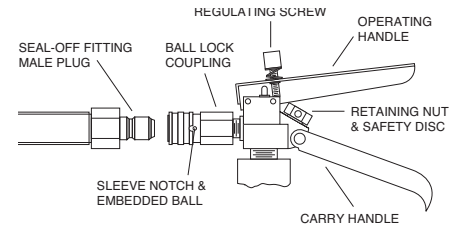

Figure 4
When using the CO₂ system, adjust the flow regulating screw on the "squeeze to operate" valve handle on the 5 lb. cylinder or on the 1105 valve and hose assembly. Regulate the flow to a moderate amount sufficient to keep the line carrier moving and the line flowing into the conduit. Develop a light touch and conserve CO₂ (Refer to Figure 4).
All CO₂ seal-offs are equipped with a male quick disconnect plug that plugs into the operating valve ball lock coupling on the 5 lb. CO₂ cylinder valve or the 1105 operating valve and hose assembly used with the 20 lb. and 50 lb. CO₂ cylinders (Refer to Figure 4).
1. Rotate the valve ball lock coupling sleeve to align notch with embedded ball (Refer to Figure 4).
method of placing a light weight pull line in the conduit. The line package or seal-off requires no thread up for this operation. However, it is recommended that the seal-off be connected to the operating valve and a preliminary CO₂ flow adjustment be made by alternately operating the valve and adjusting the regulating screw. If more CO₂ flow is required, back out the regulating screw one or two more turns (Refer to Figure 4 and 5).